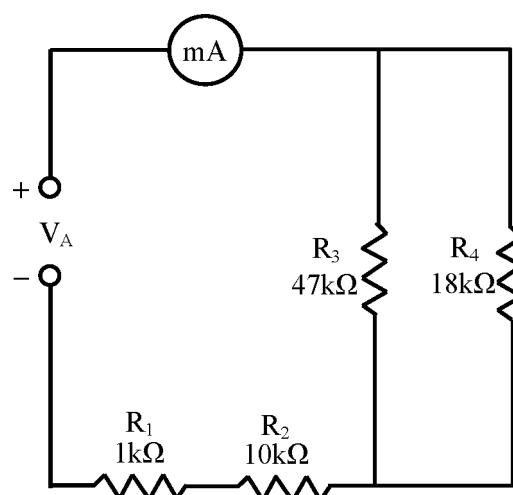

Figure 24-1
1. Connect the circuit as shown in Figure 24-1.